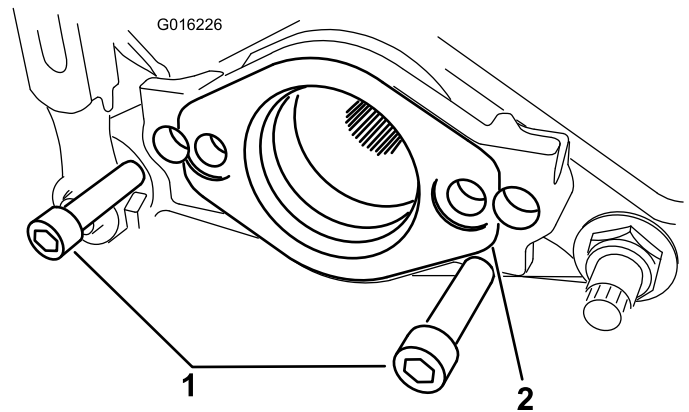

Figure 3
7. Remove the 2 Allen head screws securing the motor mount to the left end of the cutting unit. Remove the motor mount (Figure 3).